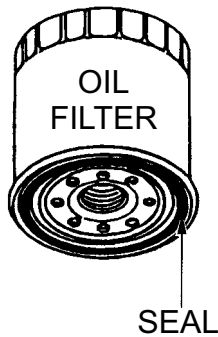

Figure 23. Oil Filter/Seal
10. Be sure to coat the seal (Figure 23) of the new oil filter with clean engine oil.